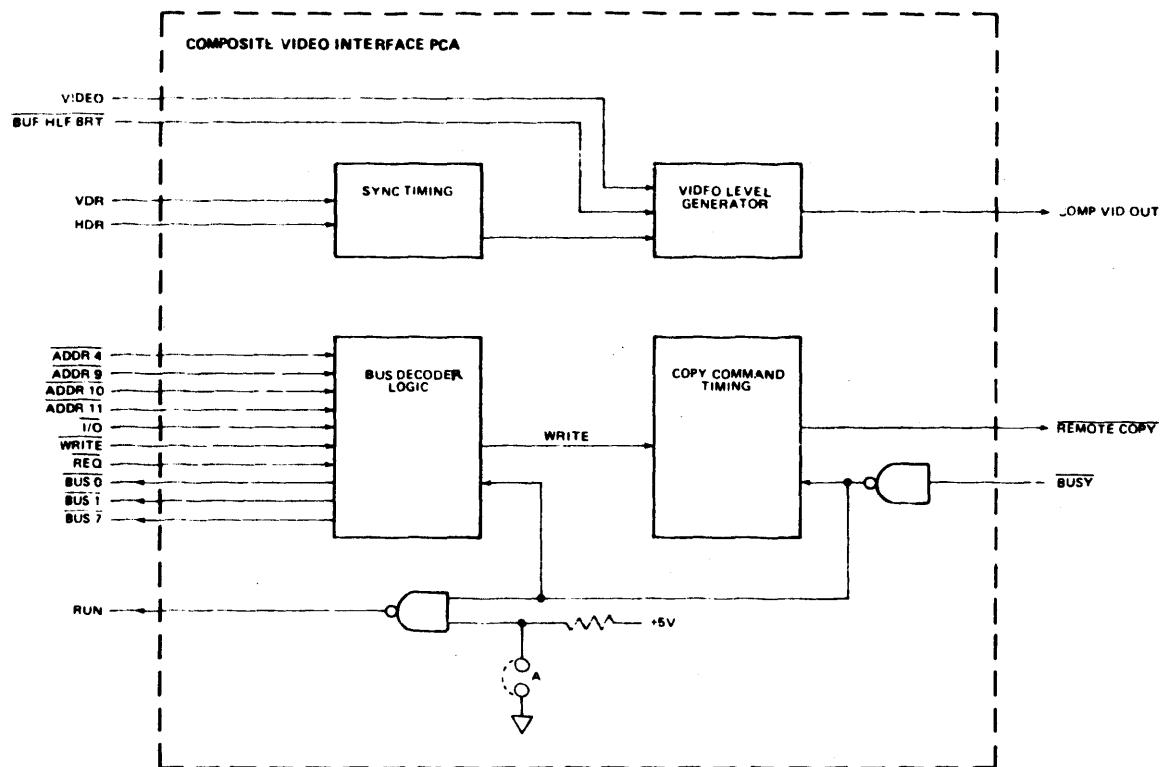
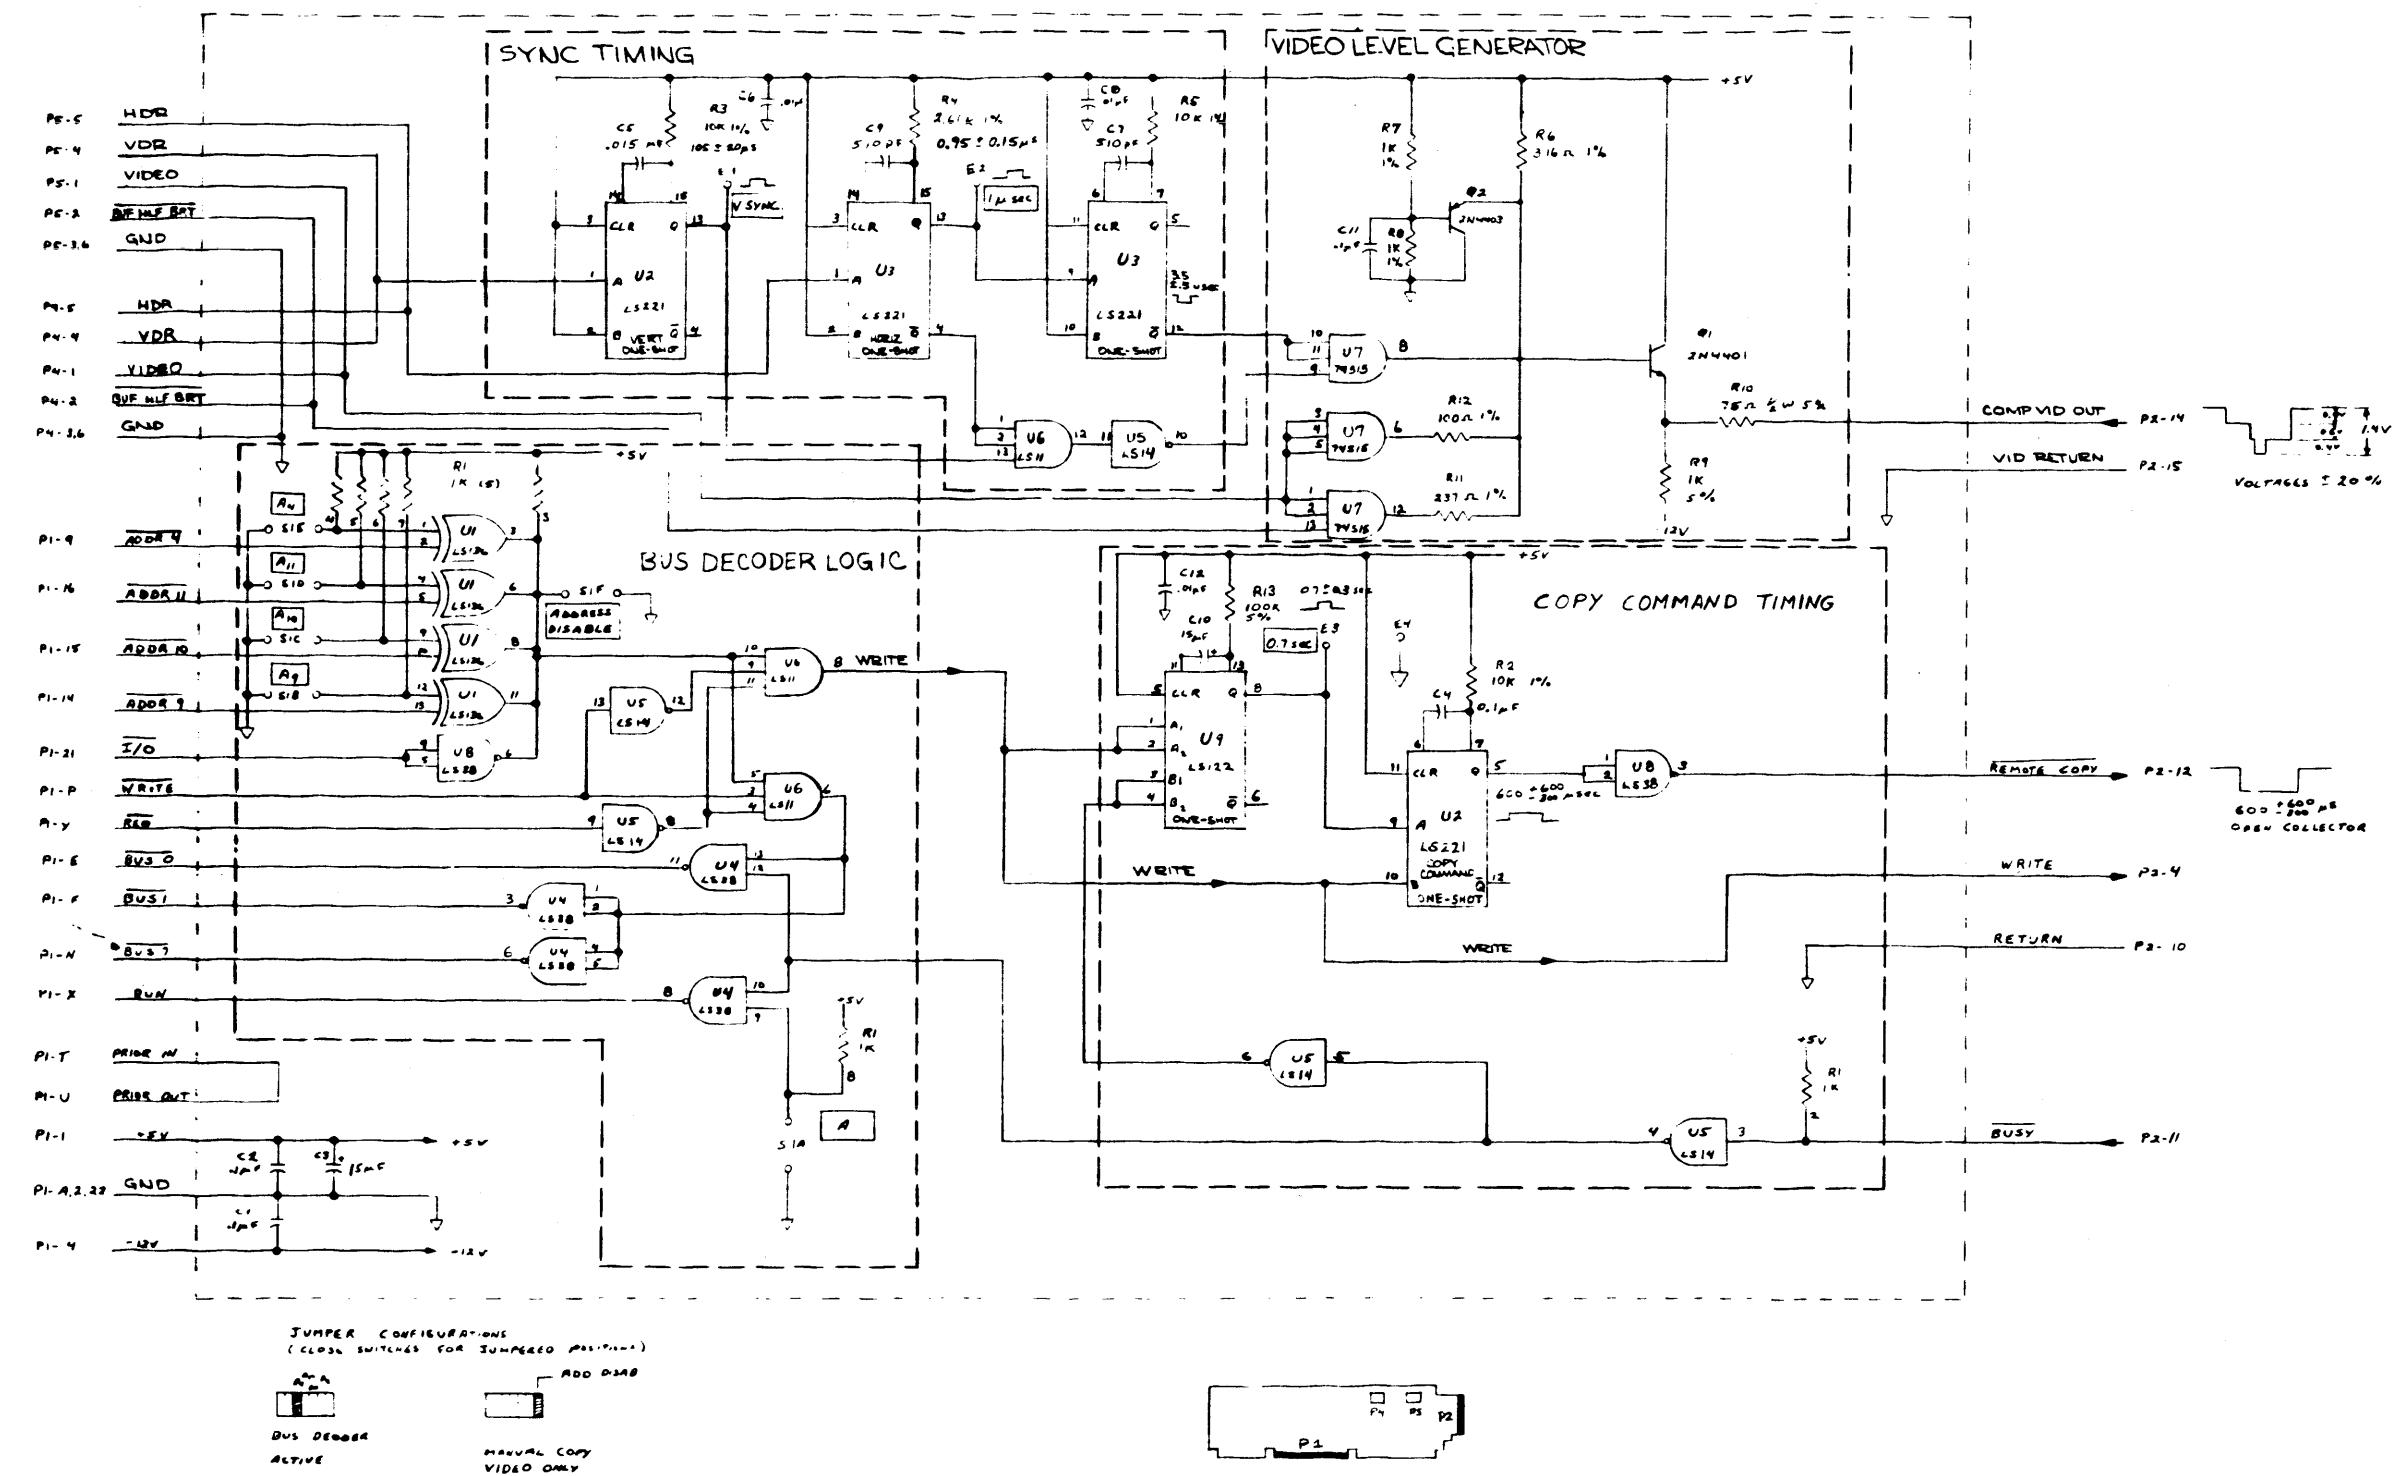
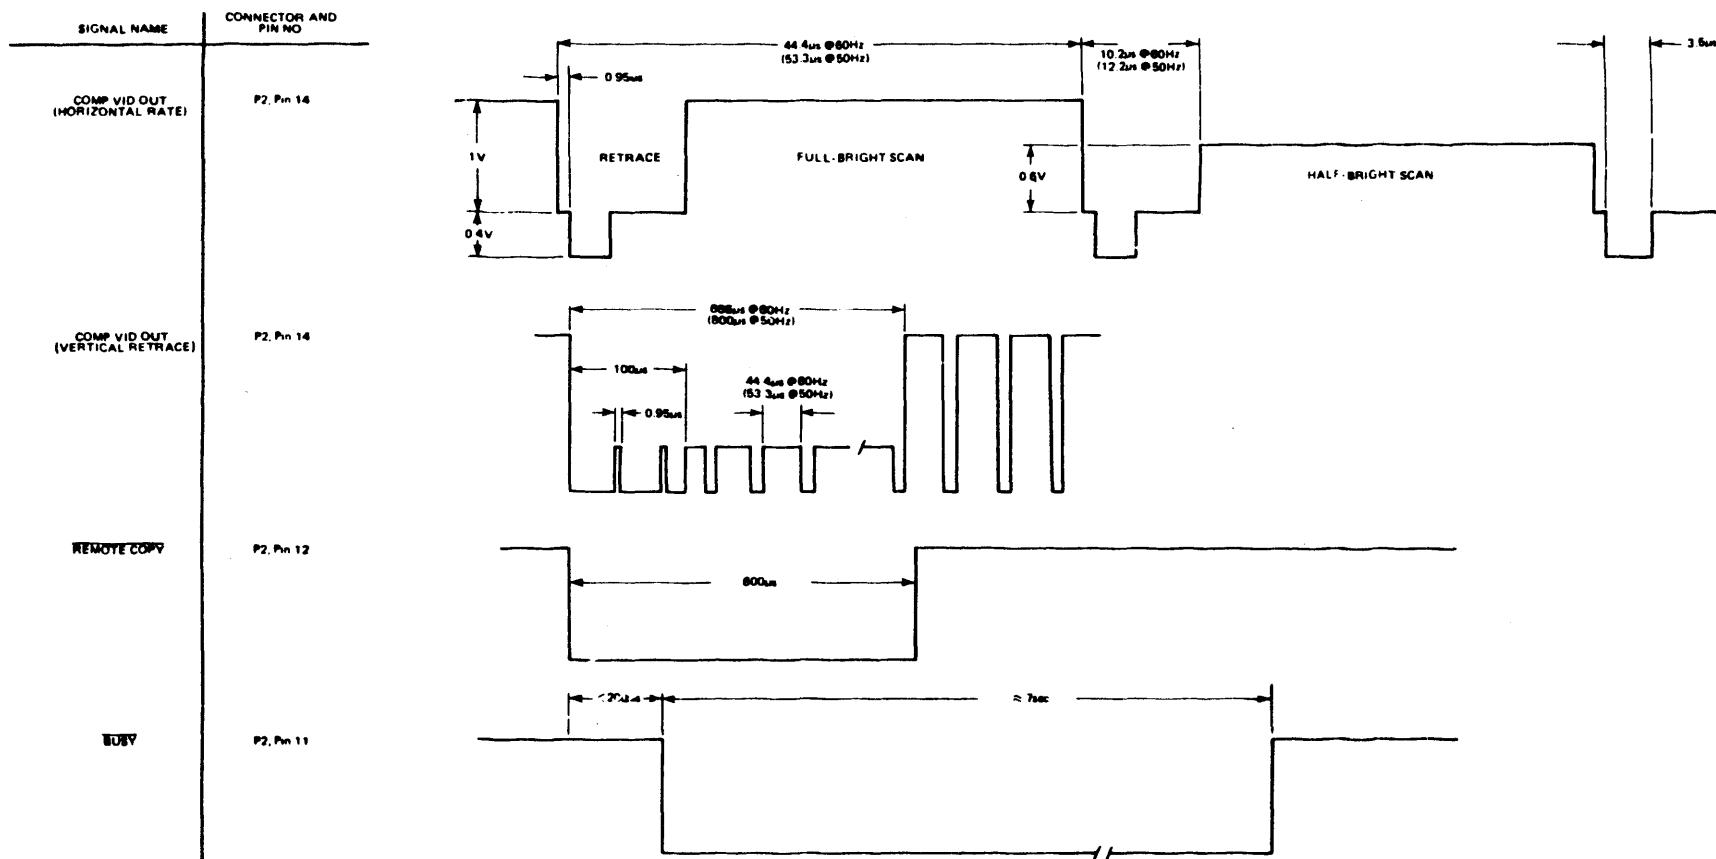
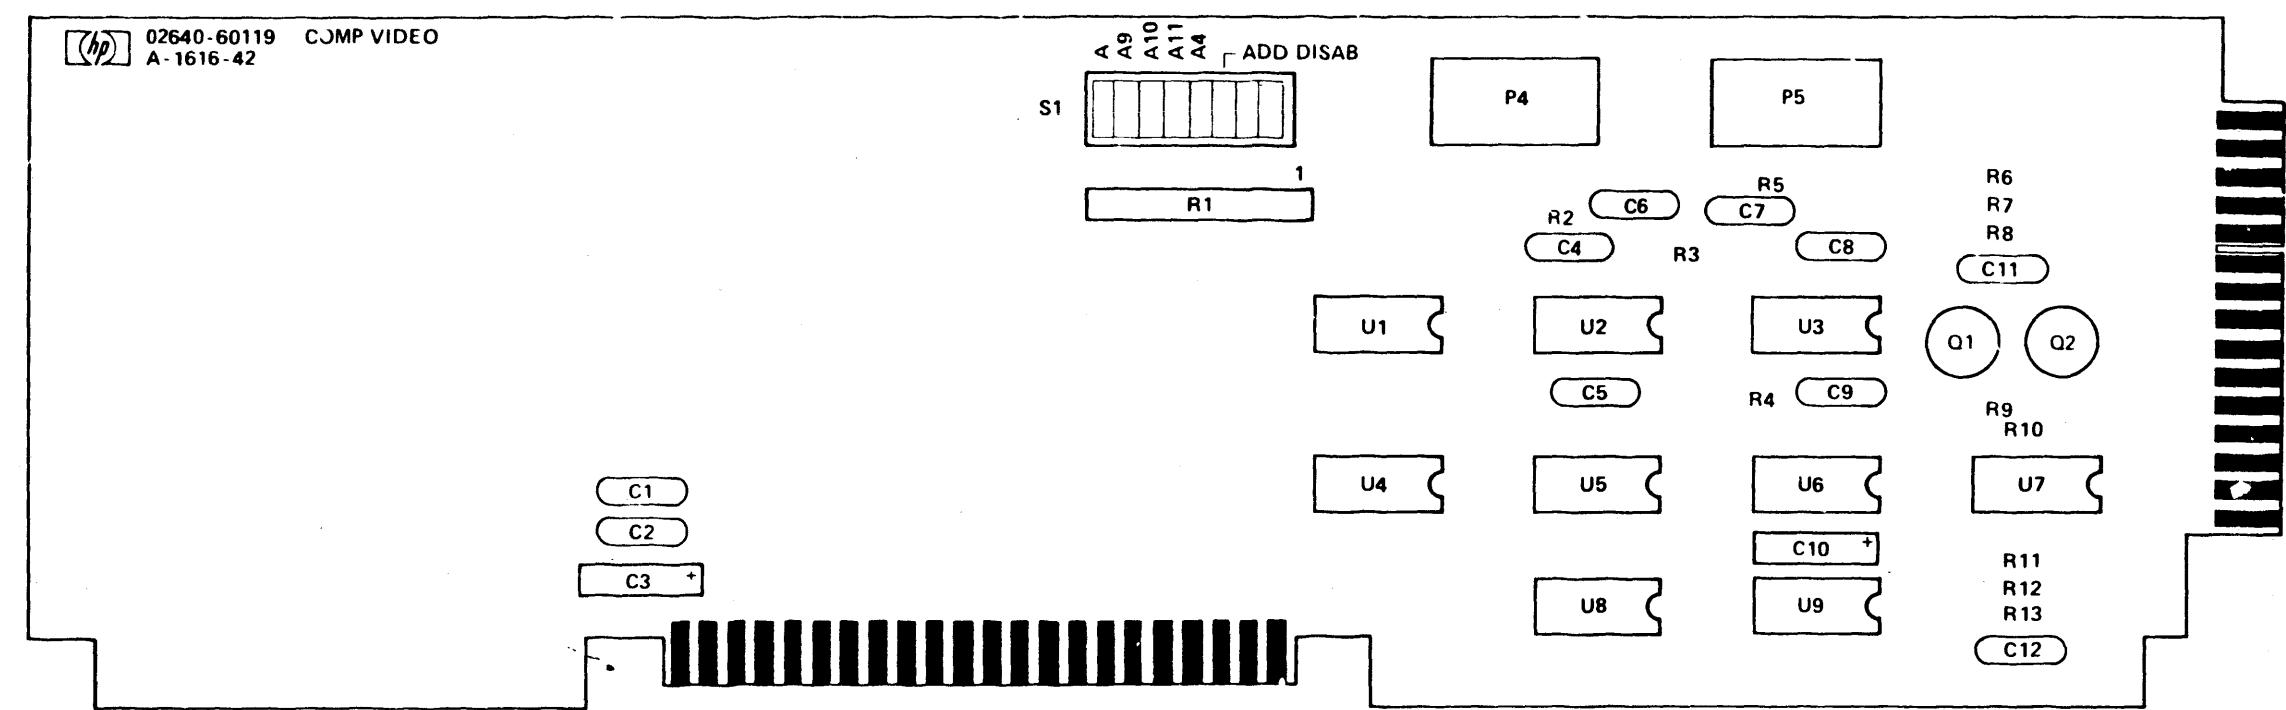

Figure 1
Figure 2
Figure 3
Figure 4
3.0 **FUNCTIONAL DESCRIPTION.** Refer to the block diagram (figure 1), schematic diagram (figure 2), timing diagram (figure 3), component location diagram (figure 4), and parts lists (02640-60119) located in the appendix.
Pin 12 and the  $\bar{Q}$  output (U3, Pin 4) is gated with the Vertical Sync pulse to "serrate" it. These serrations keep the horizontal oscillator in the monitor synchronized during the vertical sync interval. The output timing to the sync timing block is shown as the time dimensions on the composite video portion of the timing diagram figure 3.